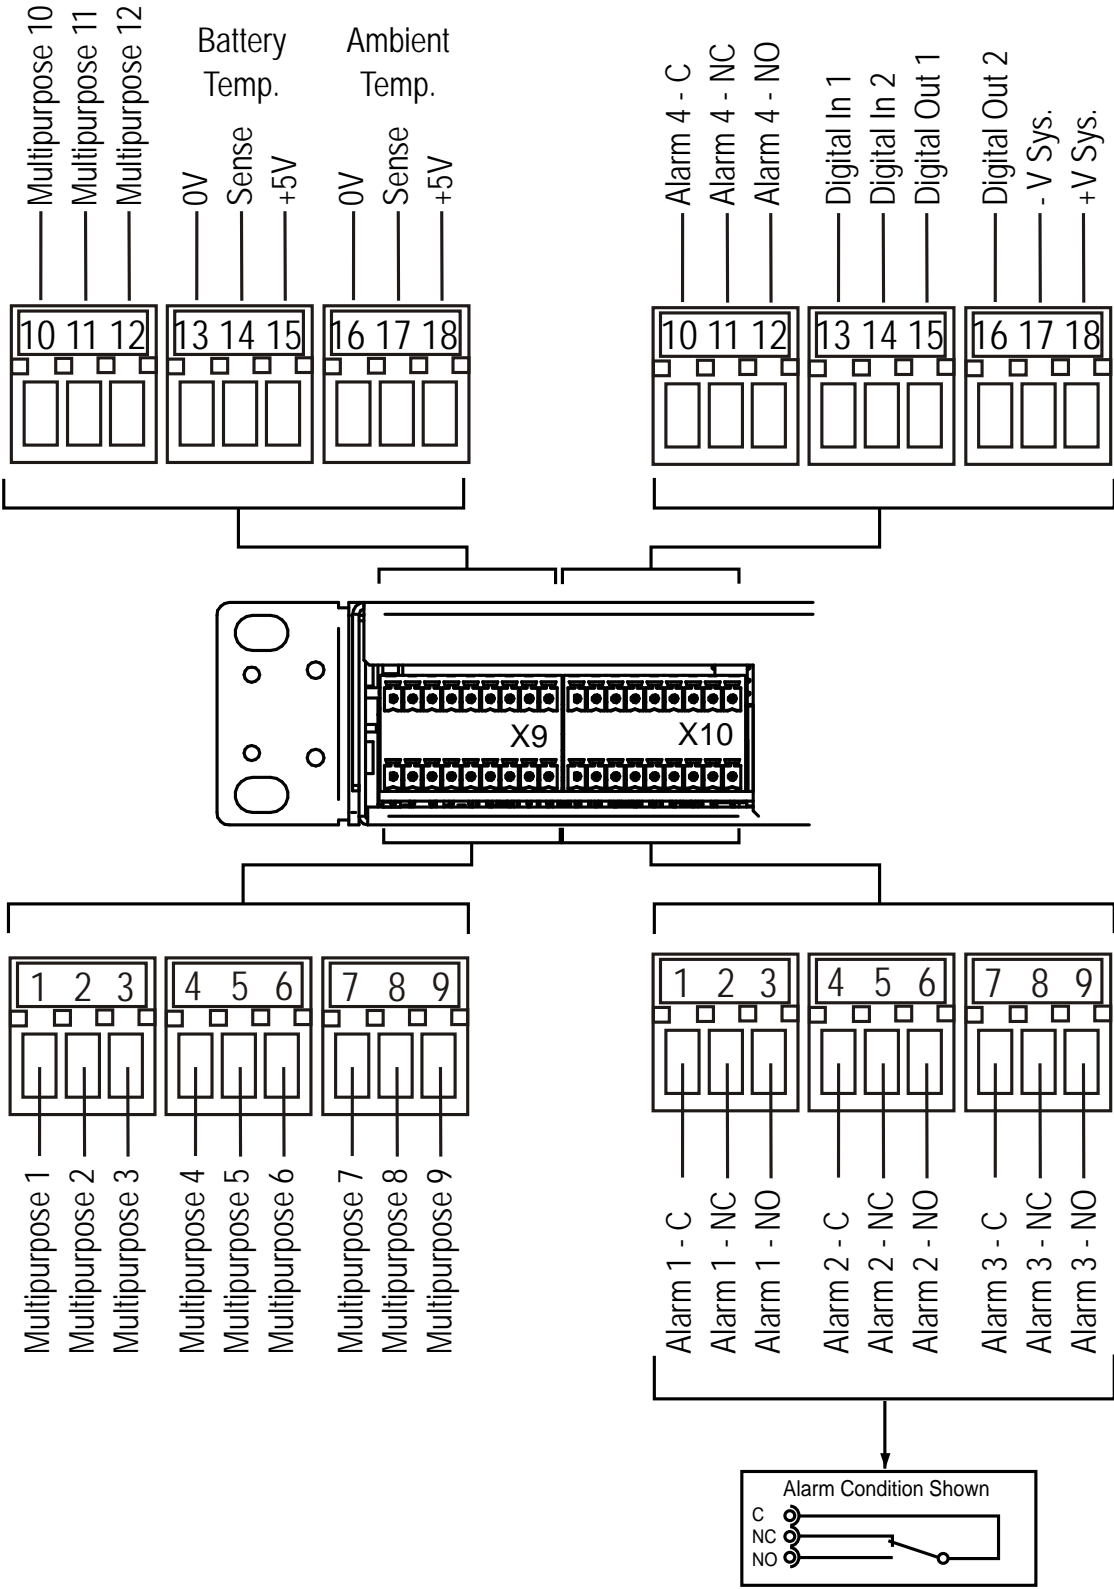

Figure 4-7 Signal Pin Designations
The pin description detail for all signal connections is shown in Figure 4-7.
**NOTE** Symmetry cable is normally pre-connected to the system, see Figure 4-7.
**NOTE** Temperature sensor is normally pre connected to the system, see Figure 4-7.